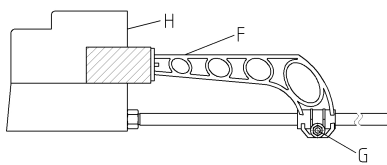

Fig.3
4. Adjusting the stop bar (fig.3)